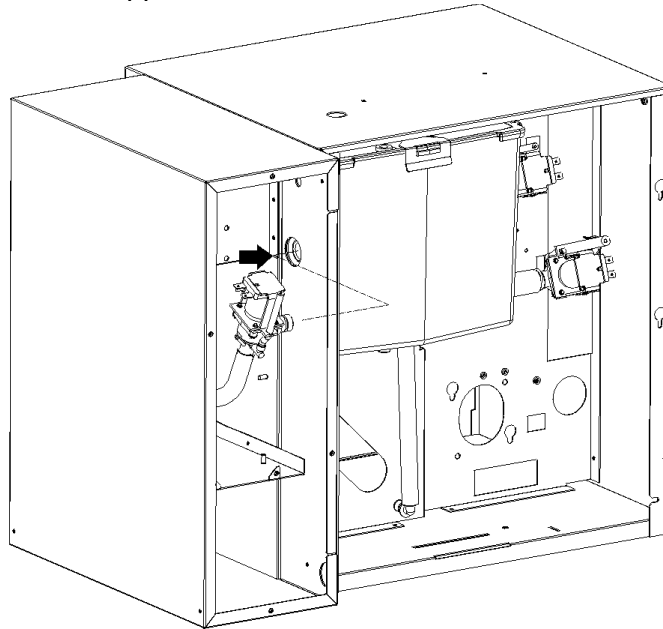

Figure 5 - Install the valve onto the side of the water tank.
4. Install the APP valve onto the side of the tank (*Figure 5*).